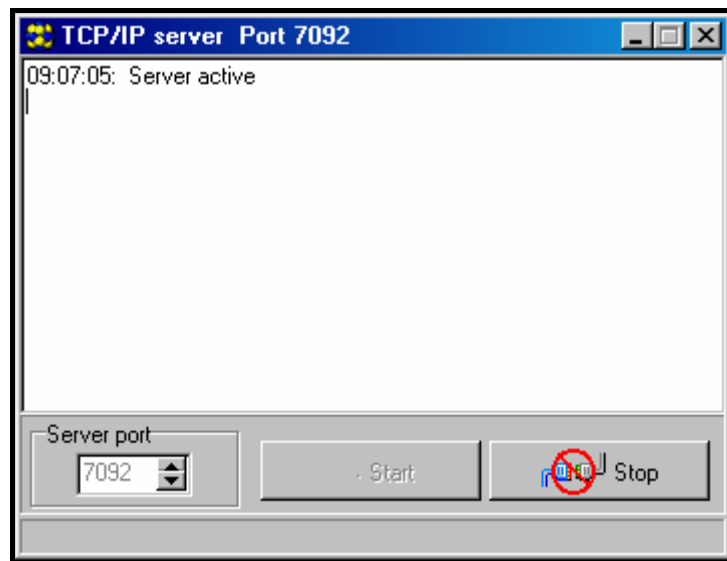

Fig. 8. "TCP/IP" window.
2. Select the "TCP/IP" in the "Communication" menu. A window will open in which information on server activation will be displayed (see: Fig. 8).